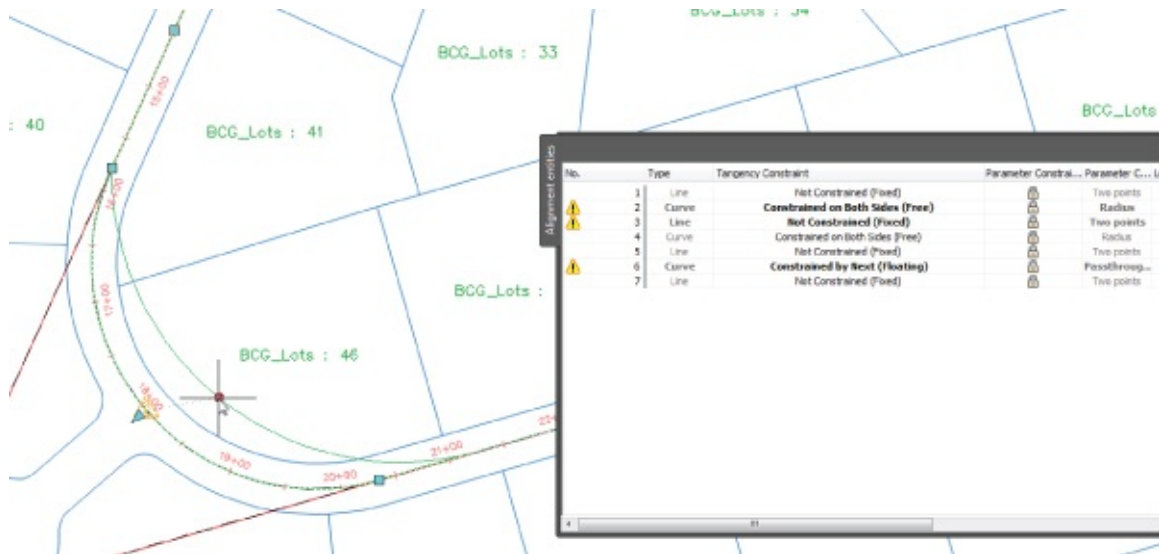

Figure 6.36 Gripping on an alignment with the curve set to Constrained By Next (Floating) and the following line set to Not Constrained (Fixed)
2. Grip-edit the curve using the midpoint grip and notice that the curve now maintains its tangency with the following line but not the previous line (Figure 6.36).